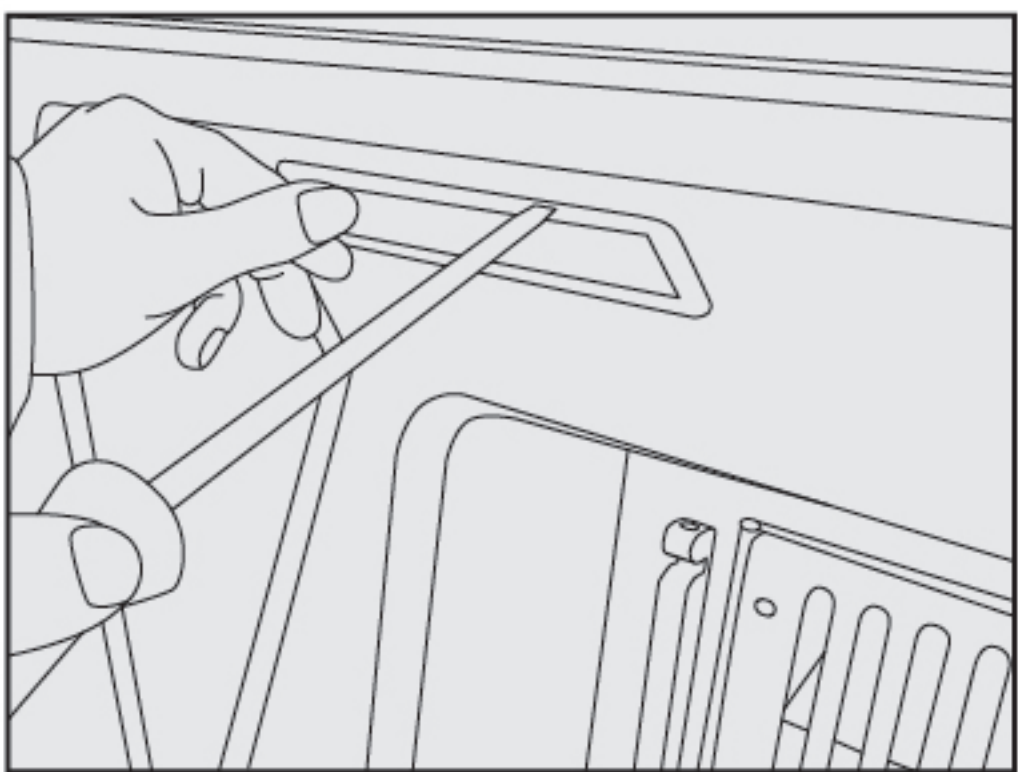
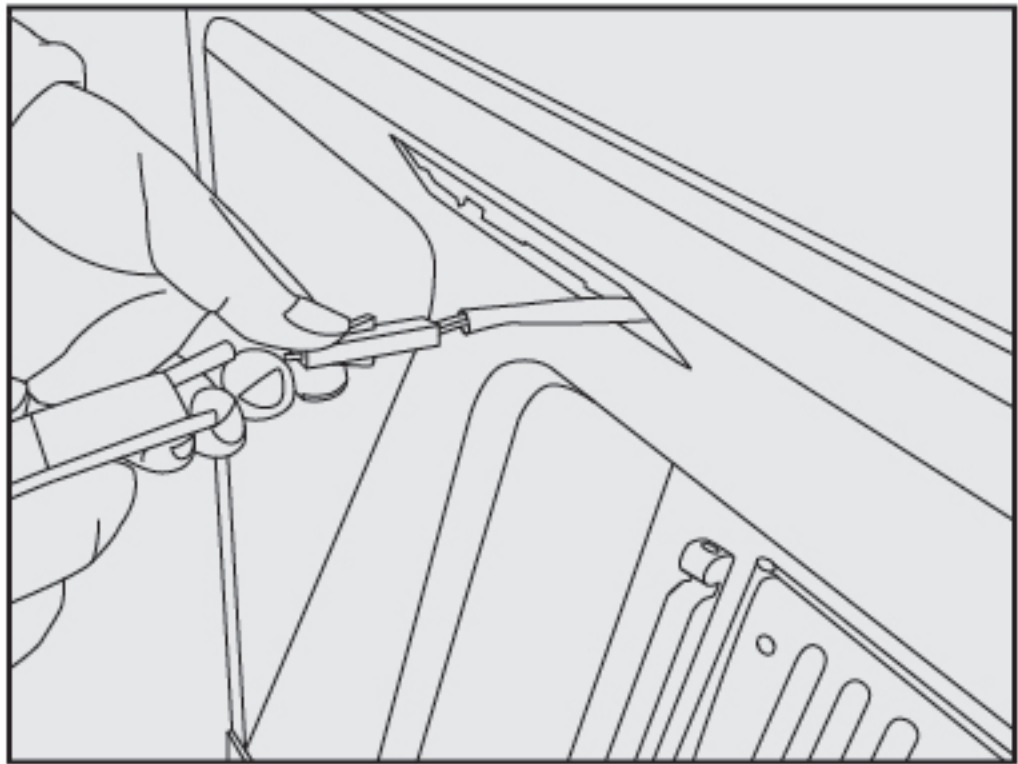

Figure 1
Figure 2
- Hold up the LED light with the left hand, insert a small straight screwdriver into the margin of the LED light with the right hand (Figure 1), slightly prize downward to take down the LED light, and open the wire socket (Figure 2);